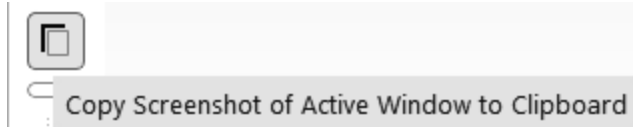

Figure 2.16c) Copying screenshot
- Click on the Curves... button in the Solution XY Plot window. Select the first pattern under Line Style for Curve # 0. Select no Symbol for Marker Style and click on the Apply button. Next select Curve # 1, select the next available Pattern for Line Style, no Symbol for Marker Style, and click on the Apply button. Continue this pattern of selection with the next two curves # 2 and # 3. Close the Curves – Solution XY Plot window. Click on the Save/Plot button in the Solution XY Plot window and close this window. Click on Copy Screenshot of Active Window to Clipboard, see Figure 2.16c). The XY Plot can be pasted into a Word document.
Click on Copy Screenshot of Active Window to Clipboard, see Figure 2.16c). The XY Plot can be pasted into a Word document.